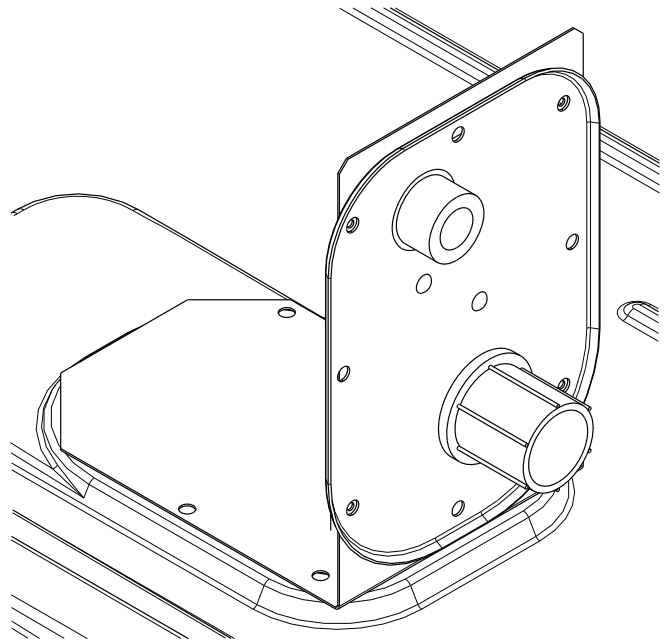
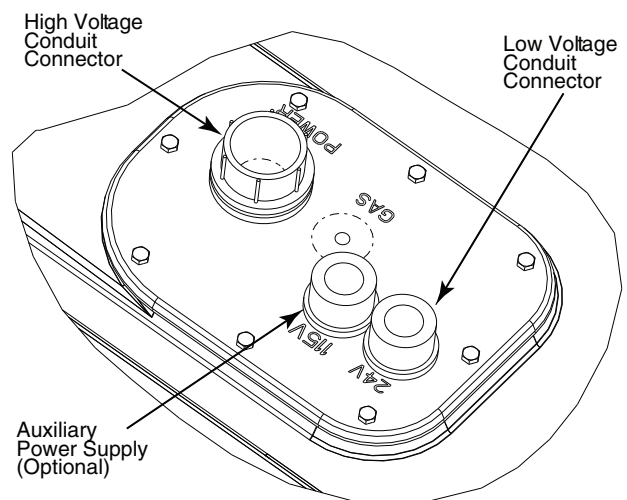

Fig. 26 — Thru-the-Base Fitting Assembly (Shown in Shipping Position)
Fig. 27 — Thru-Base Connection Fittings
This service connection kit consists of a 1/2 in. electrical bulkhead connector and a 3/4 in. electrical bulkhead connector, connected to an "L" bracket covering the embossed (raised) section of the unit basepan in the condenser section (see Fig. 26 for shipping position). The 3/4 in. bulkhead connector enables the low-voltage control wires to pass through the basepan. The 1/2 in. bulkhead connector allows the high-voltage power wires to pass through the basepan. See Fig. 27.
- Place the gasket over the embossed area in the basepan, aligning the holes in the gasket to the holes in the basepan. See Fig. 27.